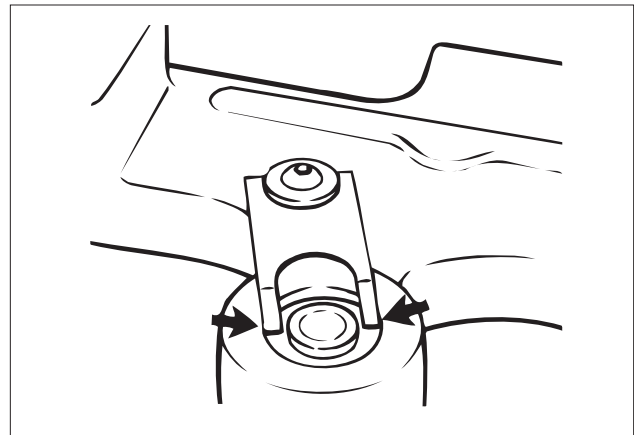

FIG. 39
4. Reassemble in reverse order. When tightening the cap-screw, make certain the two spring tabs do not interfere with the sides of the master piston center raised portion (see Fig. 39). Torque the capscrew to 8 - 10 lb.-ft. (11 - 13 N•m).